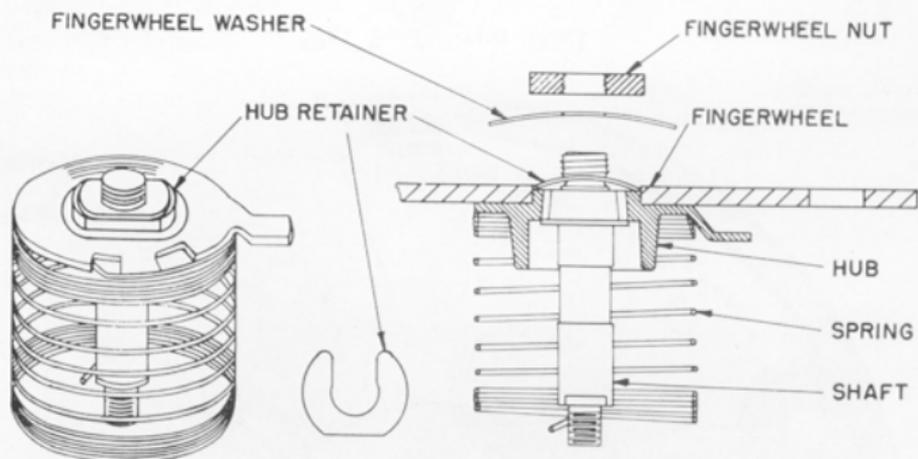

Fig. 2—Dial Hub Retainer and Spring Washer
prevent this condition, a hub retainer, P-12A951 shall be assembled under the threaded portion of the main shaft. To assemble, hold finger wheel down while nut and washer are removed and insert hub retainer as shown in Fig. 2. Replace dial if motor spring and hub assembly jump out of place.
7.02 If finger-wheel nut is removed and the washer is the flat type, replace it with spring washer P-459447 as shown in Fig. 2.